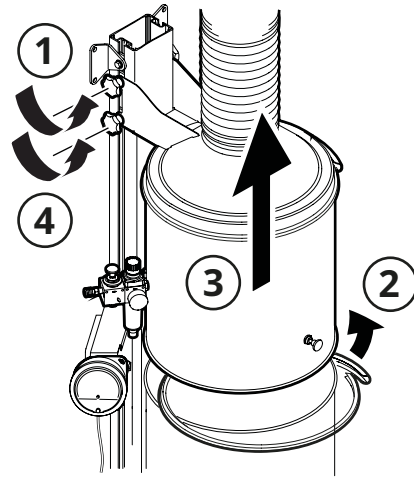
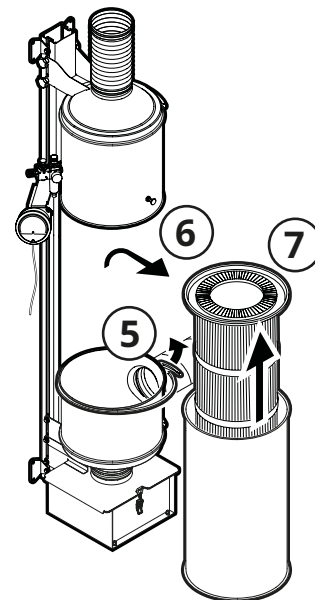
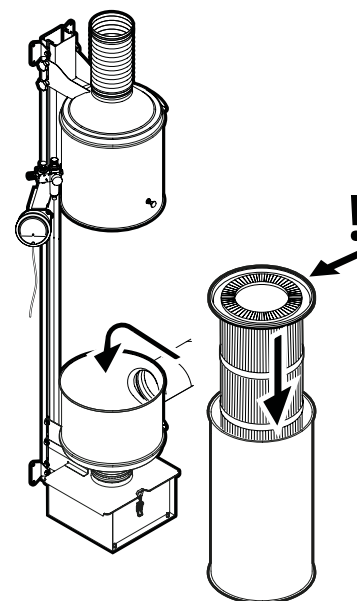

Fig. 9
Fig. 10
Fig. 11
3. Loosen the four fixation (1, **Fig. 9**) knobs for the outlet and remove the tension ring (2) between the filter housing and control housing.
4. Now push the control housing up (3) and secure it in the aluminium rail (4) so that it is firmly in place.
5. Remove the tension ring (5, **Fig. 10**) between the filter housing and the connection cylinder.
6. Lift the filter housing and place on a flat surface (6).
7. Lift out the filter from the filter housing (7).
9. Insert a new filter into the filter housing (**Fig. 11**).
2. Loosen the four fixation knobs (1, **Fig. 9**) for the outlet and remove the tension ring (2) between the filter housing and control housing.
3. Now push the control housing up (3) and secure it in the aluminium rail (4) so that it is firmly in place.
4. Remove the tension ring (5, **Fig. 10**) between the filter housing and the connection cylinder.